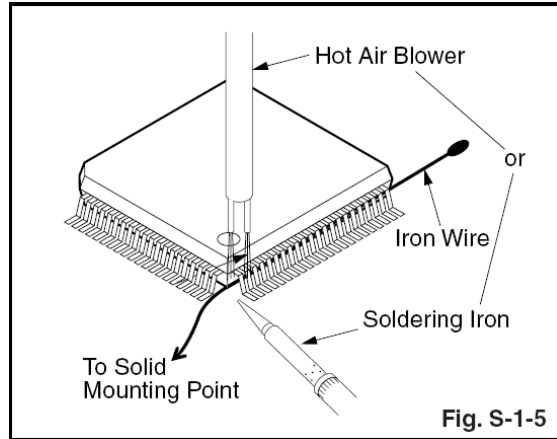

Fig. S-1-5
2. Affix the wire to a workbench or solid mounting point, as shown in Fig. S-1-5.
3. While heating the pins using a fine tip soldering iron or hot air blower, pull up the wire as the solder melts so as to lift the IC leads from the CBA contact pads as shown in Fig.S-1-5.